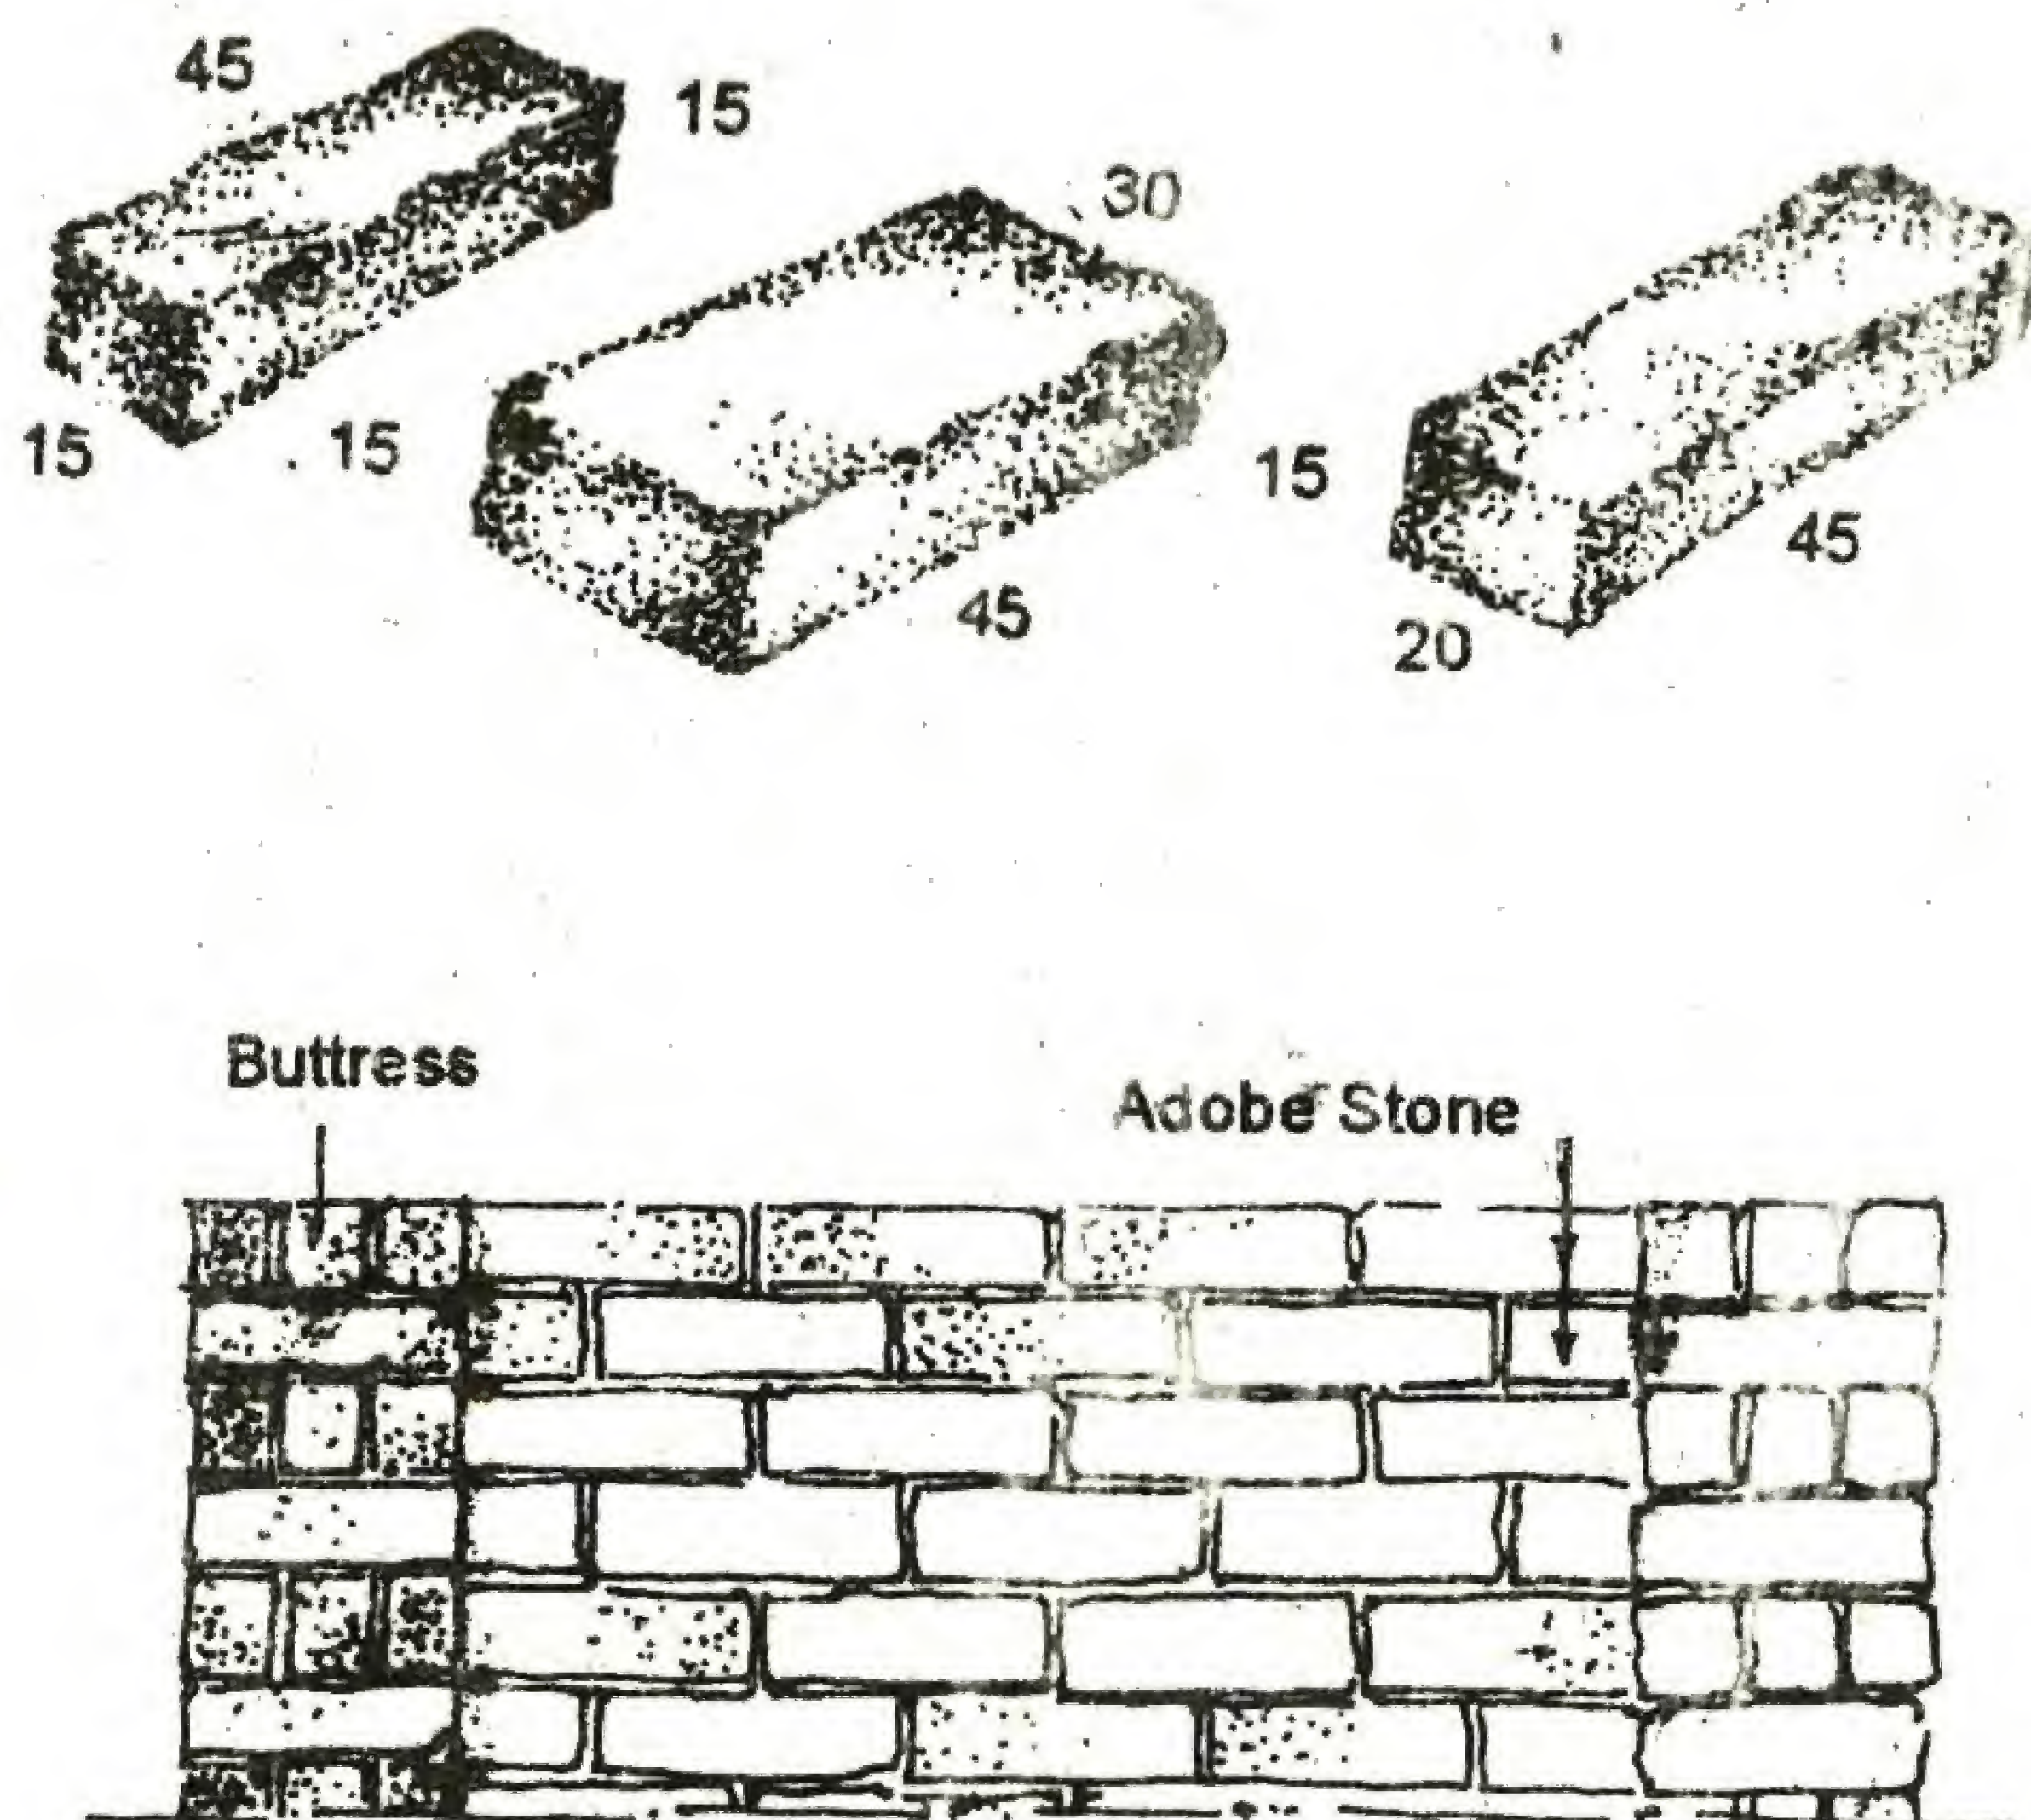

FIGURE 2-19 ADOBE STONE
2. Multiply by 6 stones per meter length. The adobe stones are laid crosswise the wall, see figure 2-19.